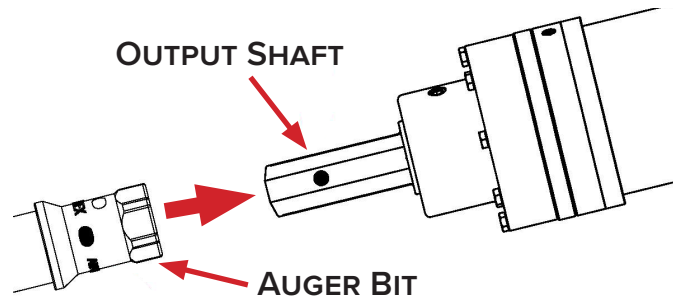

Figure 1
2. Tilt the auger drive up so the output shaft is at the approximate angle needed to install the auger bit or extension. See Figure 1.